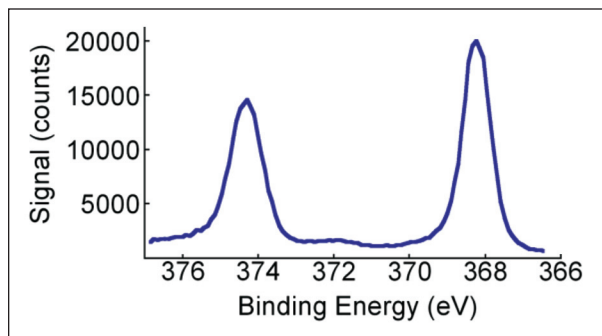

Figure 3: Scanned spectrum of the Ag 3d region of the silver XPS spectrum
The spectra are shown in Figures 3 and 4. As well as having the same intensity, these spectra contain the same number of energy channels (112). The peak width is the same in each case (FWHM = 0.95 eV) and the background signal is also the same.